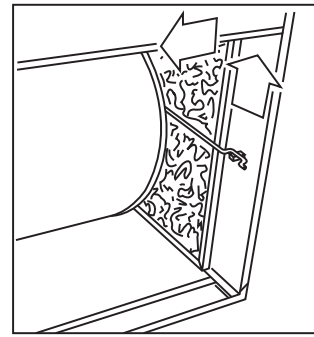
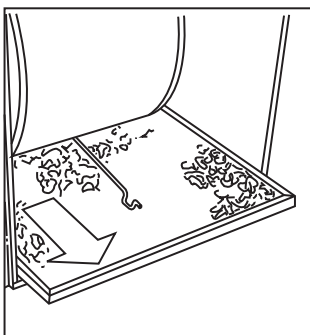

Fig. 27 - Release Filter Retaining Rod (Side Inlet)
Fig. 26 - Slide Filter Out (Bottom Inlet)
- d. Slide air filter out of furnace. See Fig. 26.
• **AIR FILTER(S) LOCATED IN BLOWER COMPARTMENT SIDE:**
- a. Remove filter retainer from latch. See Fig. 27.